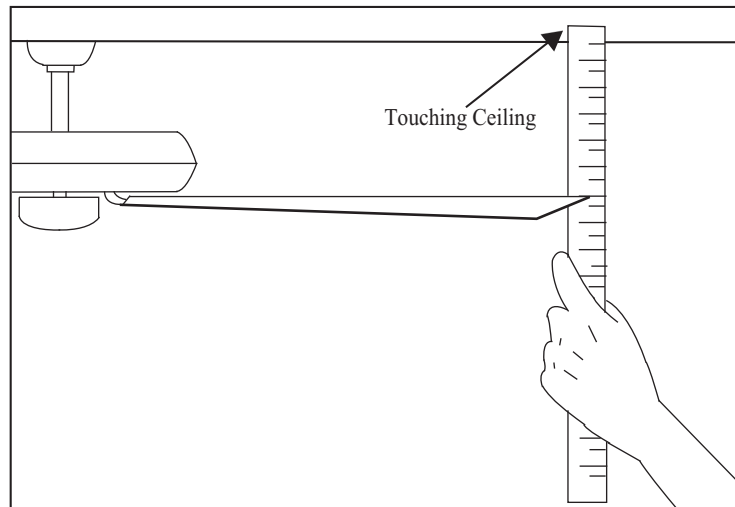

Figure 15
2. Most fan wobble problems are caused when blade levels are unequal. Check this level by selecting a point on the ceiling above the tip of one of the blades. Measure from a point on the center of each blade to the point on the ceiling. Measure this distance as shown in Figure 15. Rotate the fan until the next blade is positioned for measurement. Repeat for each blade. Measurements deviation should be within $1/8"$. Run the fan for 10 Minutes.